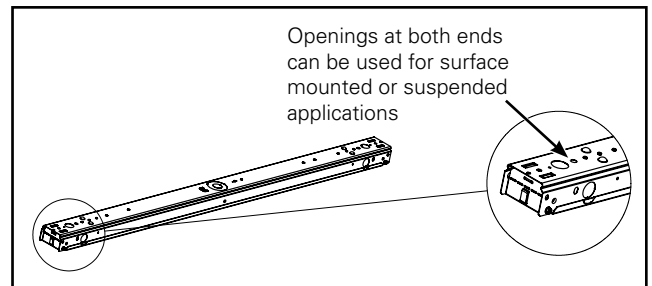

Figure 1.
1. Remove channel assembly from box, remove tape around channel cover and install on surface or suspended ceiling according to code (hardware provided by others). (Figure 1.)